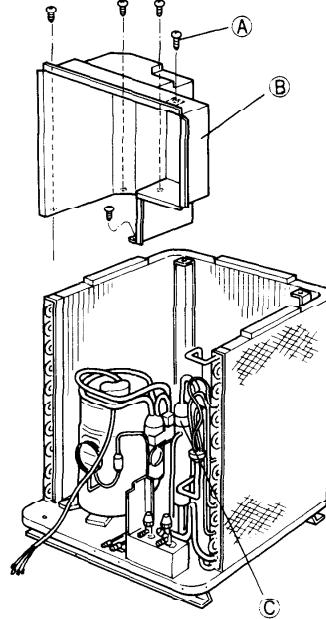

Fig. D-12
- 1) Unfasten one screw (A) and remove the mounting plate (C) from the cover (B). (SAP242CH only)
- 2) Unfasten four screws fixing the cover (B). The cover (B) can be removed by lifting it upward. (See Figure D-12.)